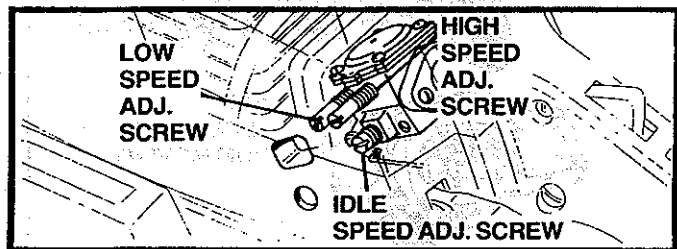

Figure 49
- d. Locate the three (3) Carburetor adjusting screws located on the fan housing side of the saw. Figure 49.